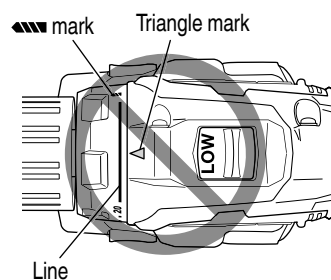

Fig. 12
- Do not use with the clutch dial set at the line between the number "20" and the drill mark "▲". Doing so may cause damage (See Fig. 12).